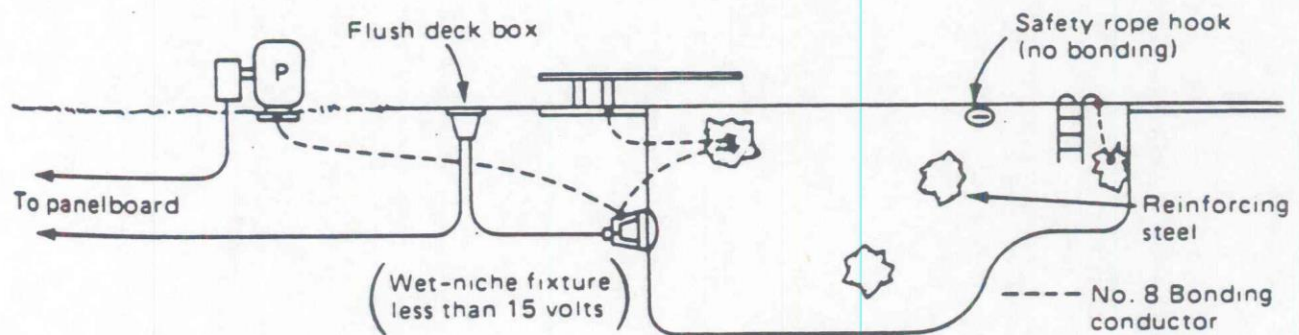

Figure 680-8.
Figure 680.8. A poured concrete pool. The structural reinforcing steel serves as the common bonding grid to which all metal appurtenances associated with the pool are connected. Safety rope hooks are not required to be bonded as specified in Section 680.26(5). The perimeter of the pool, extending 3 ft. & including unpaved surfaces must be bonded at a minimum of 4 points uniformly spaced. Section 680.26 (2)